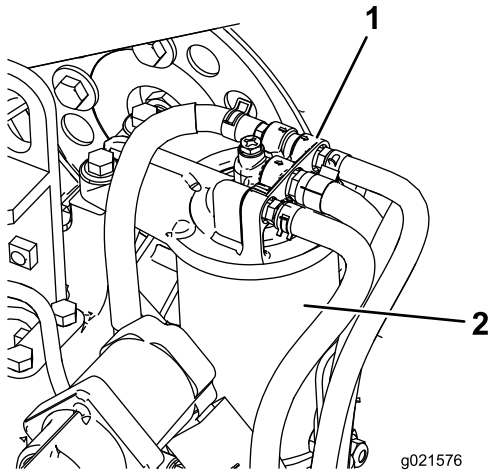

Figure 85
1. Clean the area around the fuel-filter head (Figure 85).
2. Remove the filter and clean the filter head mounting surface (Figure 85).